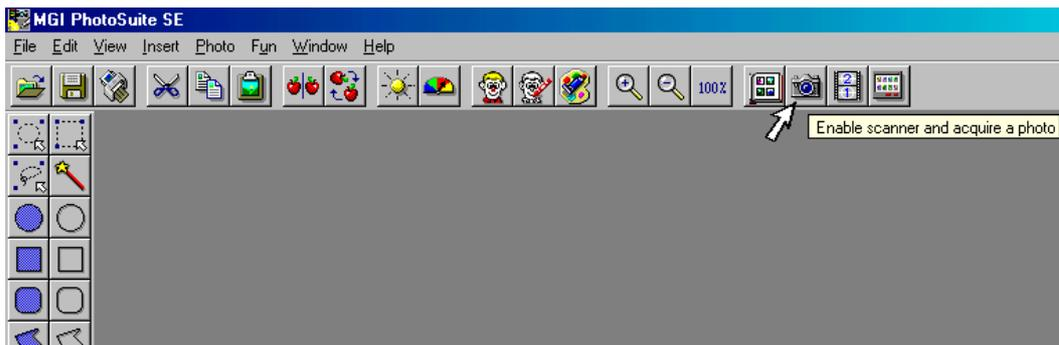

Figure 27: Requesting the main TWAIN window
1. In the main window, click on the 'Enable scanner and acquire a photo' icon (see figure 27).